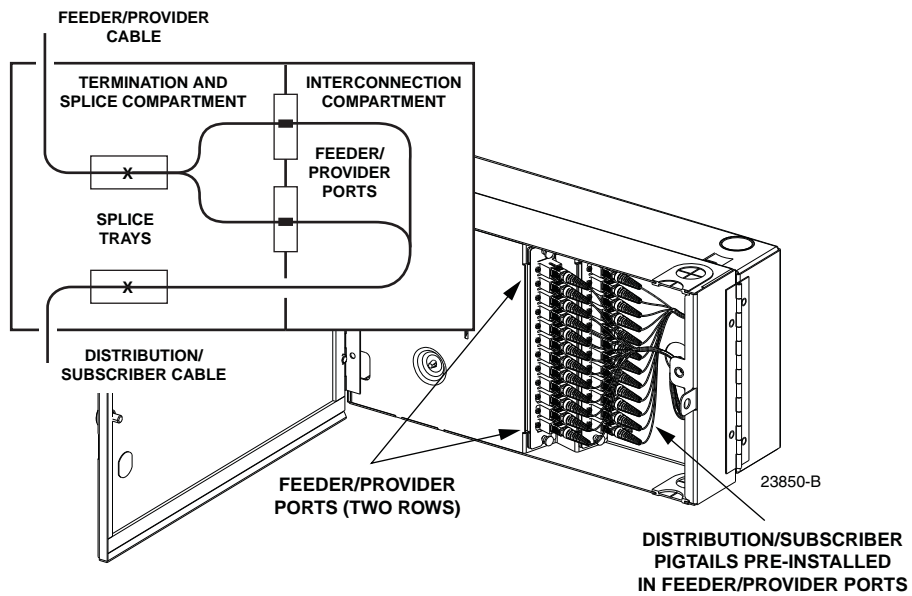

Figure 11. Interconnections - 24-Port IFDT with Pre-Installed Distribution/Subscriber Pigtails
**24-Port IFDT with pre-installed distribution/subscriber pigtails:** All the distribution/subscriber connectors are connected to the feeder/provider ports as shown in Figure 11. Service is initiated when the subscriber equipment is activated.